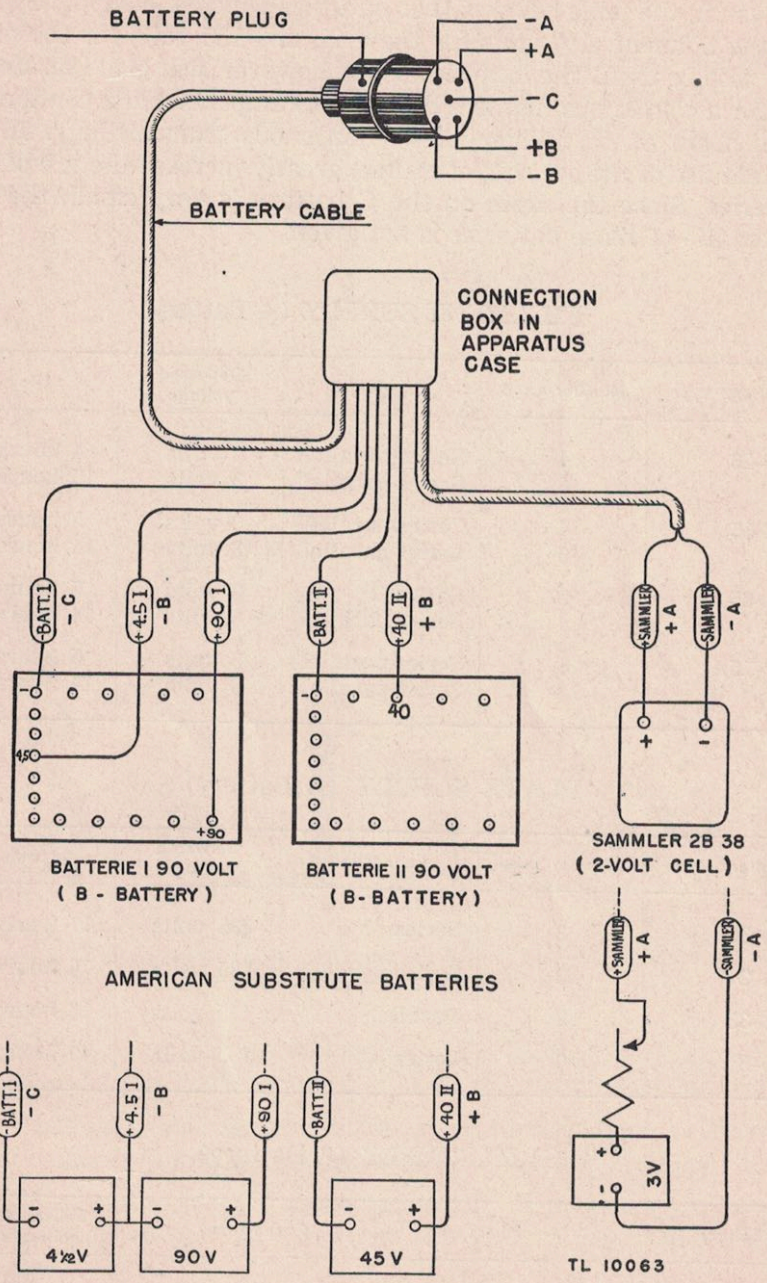

Figure 1. Battery connections for German batteries and American substitutes for German radio sets Torn. Fu. b1. and Torn. Fu. f.
a. Battery installation. If the proper German batteries are available, they should be connected in the accessories case as shown in figure 1. The storage cell, German type 2B38, will fit into a compartment provided. Each of the two **Anode Batteries** (B batteries) also fits into a compartment of the case.
b. Filament supply substitutes. When the German storage cell is unavailable, a 2-volt storage cell of any manufacture may be used. Dry cells of 3 volts may be used in place of the storage cell but a dropping resistor will have to be connected as shown in figure 1. Approximately 1 ohm will be needed in the **Empfang** (receive) position and approximately 0.4 ohms in the **Send. Empf.** (transmit-receive) position.
c. Plate and grid supply substitutes. When German **Anode Batteries** (B batteries) are not available, B batteries of American manufacture may be substituted as shown in figure 1.